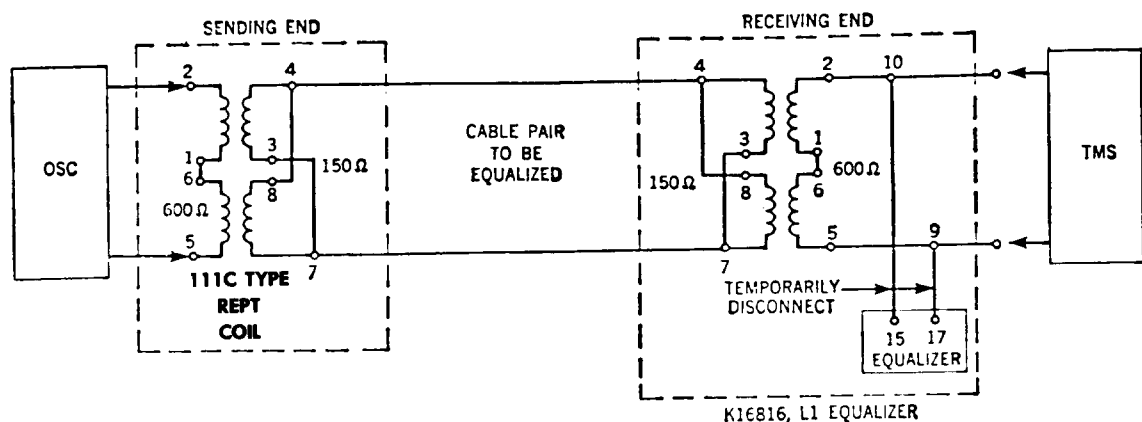

Fig. 2—Test Setup for Equalizing a Single Section Using KS-16816, L1 Equalizer
2.05 One of the big advantages of the KS-16816, L1 Equalizer is that it has an adjustable resistance element which eliminates the need for soldering which is necessary with the SD-55503-01 Equalizer. This speeds up the equalization considerably. Chart II gives the procedure for making this test with the KS-16816, L1 Equalizer. The test setup is shown in Fig. 2.
3	Measure 1 kHz loss as shown in Fig. 2 with equalizer removed. Requirement: The 1 kHz loss should be 16.5 dB or less with coils in the circuit (10 dB without coils). If not met, the circuit may be too long to equalize.
4	Connect equalizer to the circuit as shown in Fig. 2.